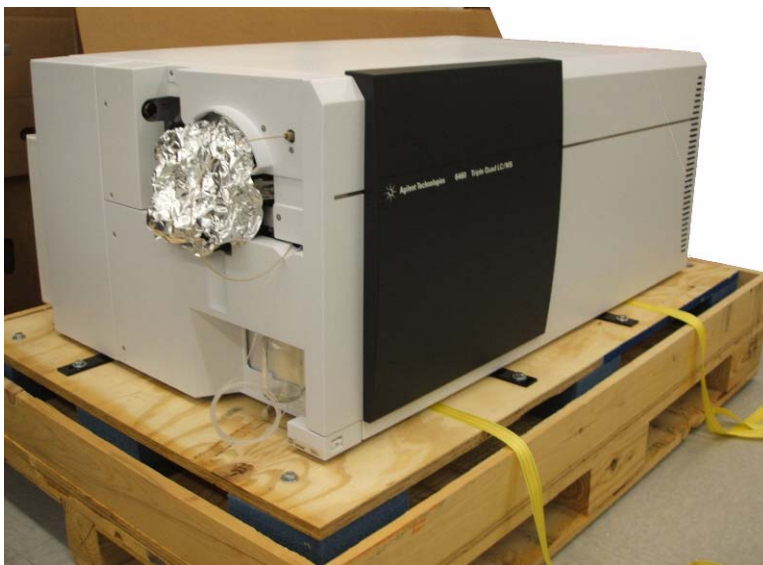

Figure 3 Instrument unboxed on shipping pallet (6460 pictured)
- b Lift the boxes off the top of the instrument. See Figure 3.